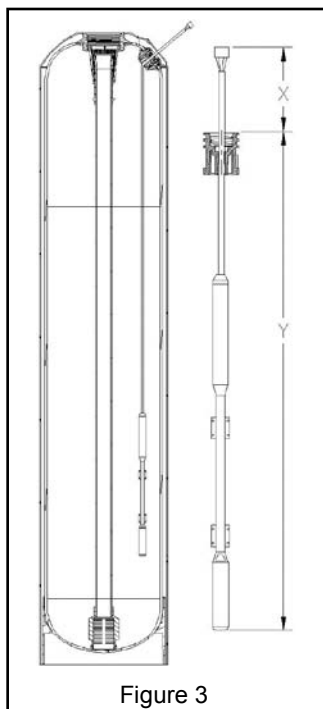

Figure 3
3. Install the outlet manifold into the tank (Figure 3).